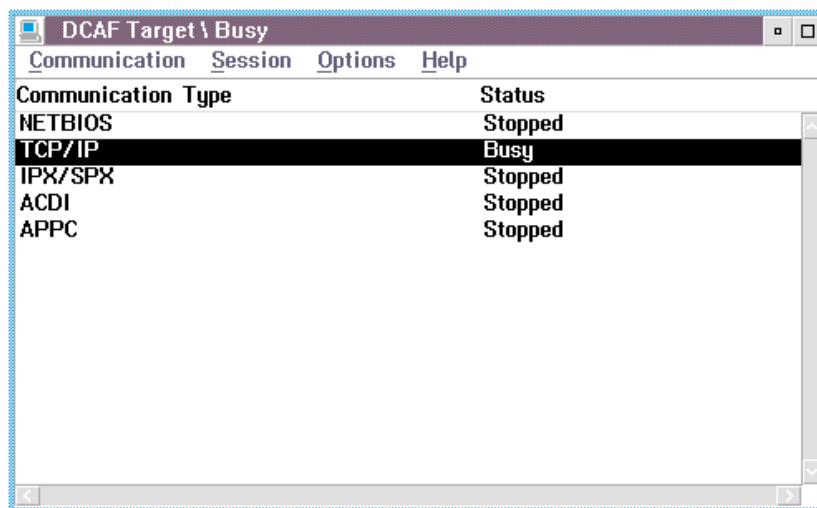

Figure 164. Changing Sessions
1. Press **Alt+T** on the library manager console. The DCAF Target window appears, and shows that the target is busy. See Figure 164 on page 255.
1. If you have an active session, take control at the library manager by pressing Alt+T and the DCAF Target window will appear. See Figure 164.